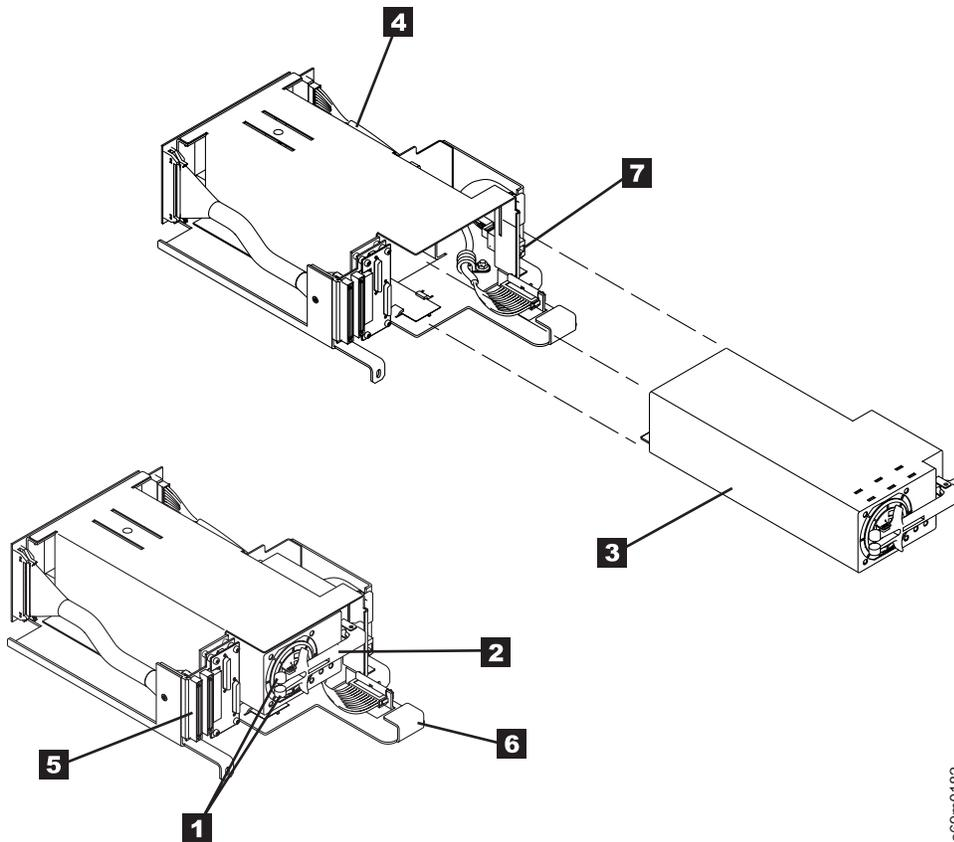

Figure 126. Hot Swap Power Supply
5. Remove the hot swap power supply by pinching the locking tabs **1** together, and pivot the locking arm **2** outward (see Figure 126 on page 613).